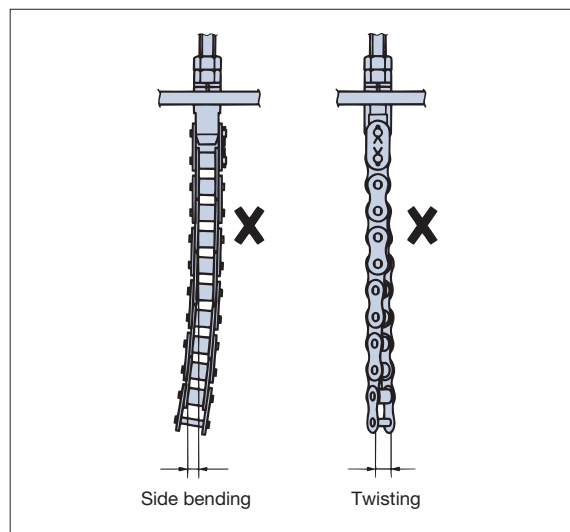

Fig. 32 Twisting of the roller chain
4. Inspect for twisting and side bending of the roller chain. If partial twisting or side bending of the chain occurs, the complete roller chain should be replaced. (Fig. 32)